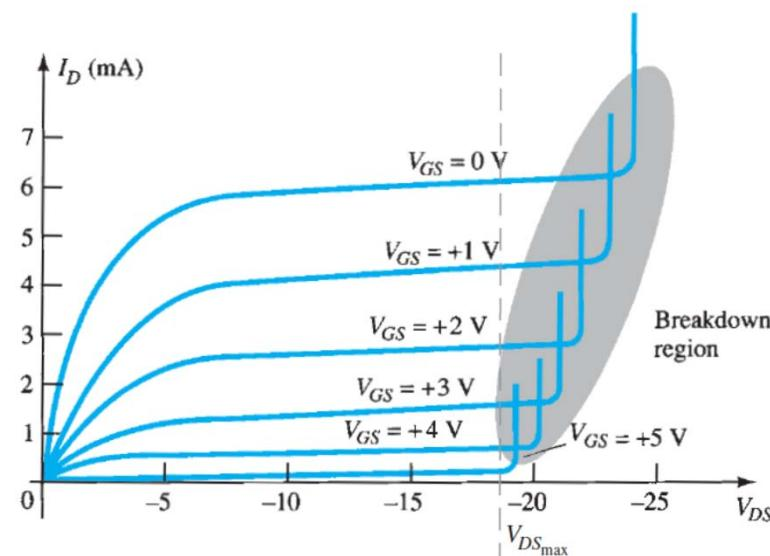

FIG. 6.13
- For the p -channel device, the channel will be constricted by increasing positive voltages from gate to source and the double-subscript notation for V_{DS} will result in negative voltages for V_{DS} on the characteristics of Fig. 6.13 , which has an I_{DSS} of 6 mA and a pinch off voltage of $V_{GS} = +6 \text{ V}$.